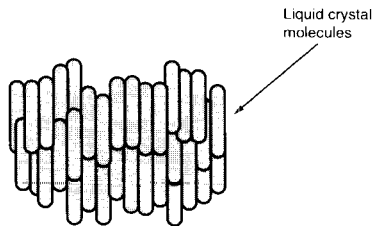

Figure 1
Liquid crystal (LC) is an organic substance that has both a liquid form and a crystal molecular structure. The rod-shaped molecules are normally in a parallel array, and an electric field can be used to control the molecules. Most LCDs today use a type of liquid crystal called twisted nematic (TN) (see Fig. 1).